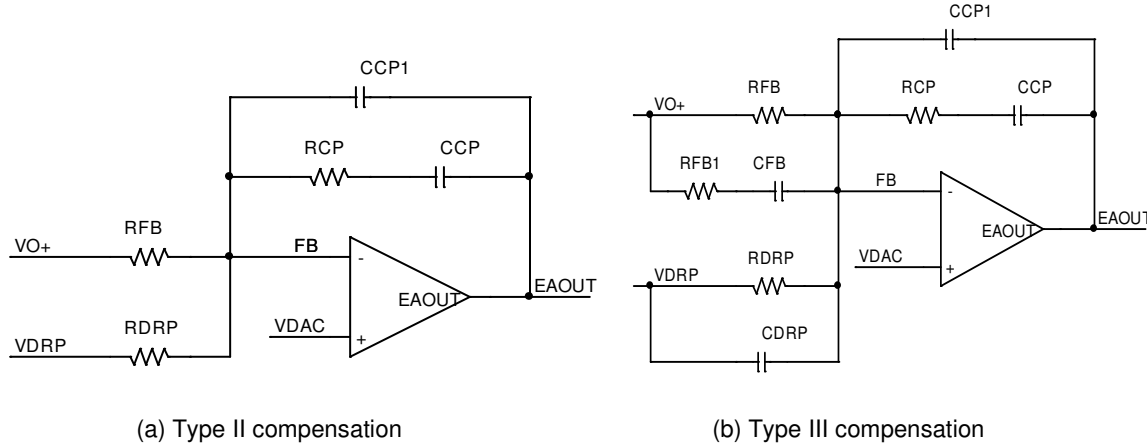

Figure 20: Voltage Loop Compensation Networks
Resistors RFB and RDRP are chosen according to Equations (15) and (16), and the selection of compensation type depends on the capacitors used. For the applications using Electrolytic, Polymer or AL-Polymer capacitors, Type II compensation shown in Figure 20 (a) is usually adequate. While for the applications with only ceramic capacitors, Type III compensation shown in Figure 20 (b) is preferred.